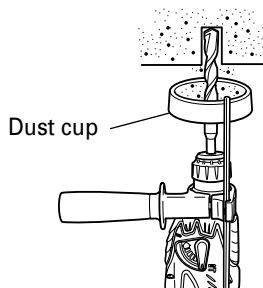
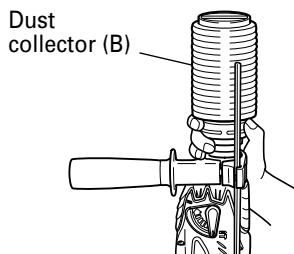

Fig. 7
Fig. 8
3. Installation of dust cup or dust collector (B) (Optional accessories) (Fig. 7, Fig. 8)
Use the dust cup by attaching to the drill bit as shown in Fig. 7.
- Installing dust collector (B)
When using dust collector (B), insert dust collector (B) from the tip of the bit by aligning it to the groove on the grip. (Fig. 8)